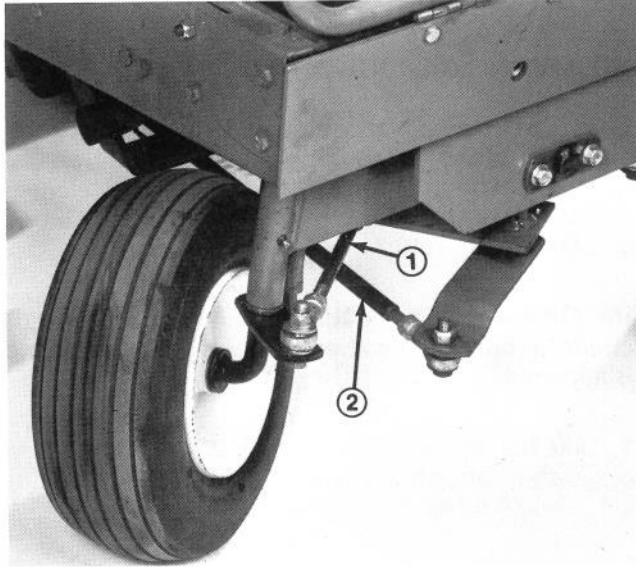

Figure 19
2. Check clearance between left tire and tie rod (Fig. 19). There should be $2.00 \pm .25$ clearance at this position.